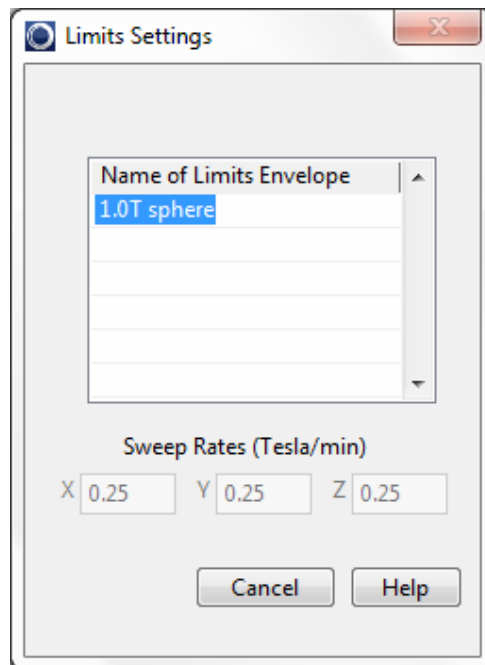

Figure 8 Limits settings dialog (limits file read-only)
- Click  to give the dialog box shown in Figure 8.